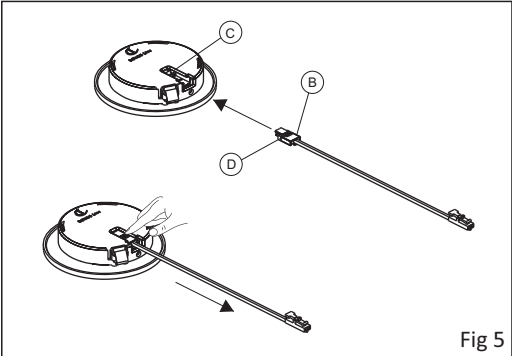

Fig 5
- For connection of the power cable to the device, insert the cable connector (B) into the slot (C) on the device, until the safety hook (D) is press-fitted into place as illustrated in figure 5.
- To remove the device power cable, press the safety release (D) slightly with your finger and extract the connector (B) from the slot (C) on the device as illustrated in figure 5.